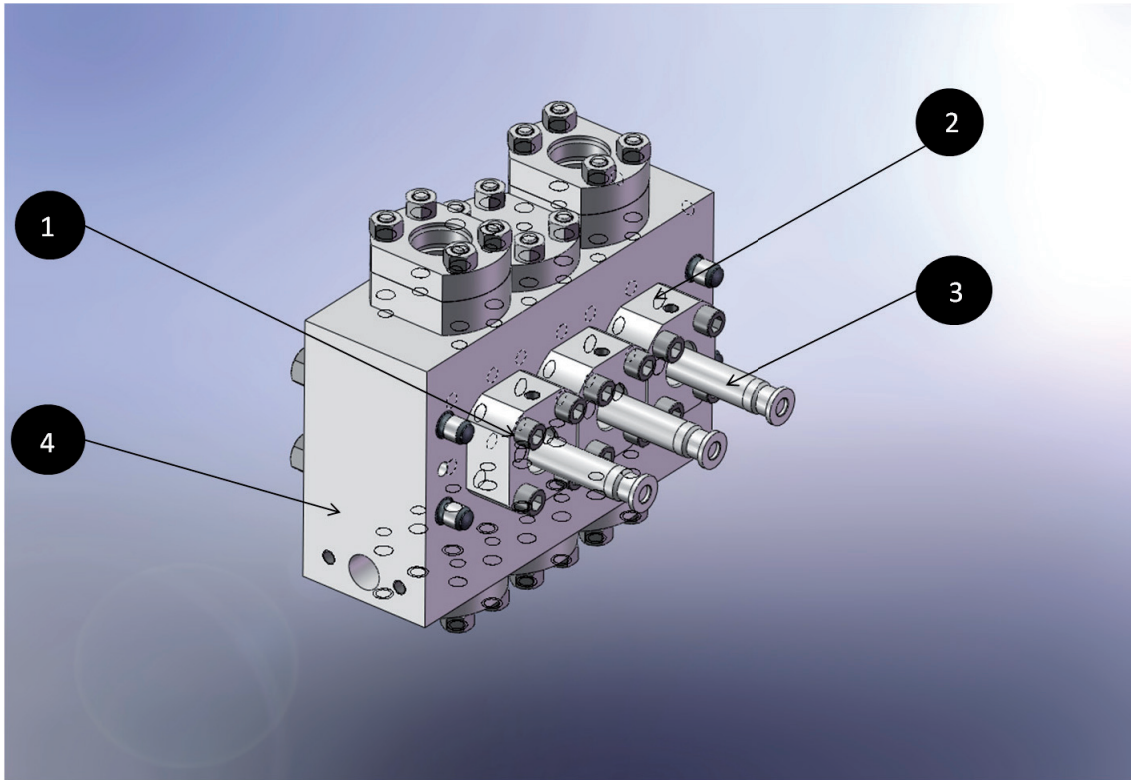

FIG. 7-15
- Referring to Figure 7-15, unscrew the nuts **(1)** and remove the packing container flanges **(2)** together with the piston **(3)** paying attention to the centring grub screws between the head **(4)** and the flange **(2)**;